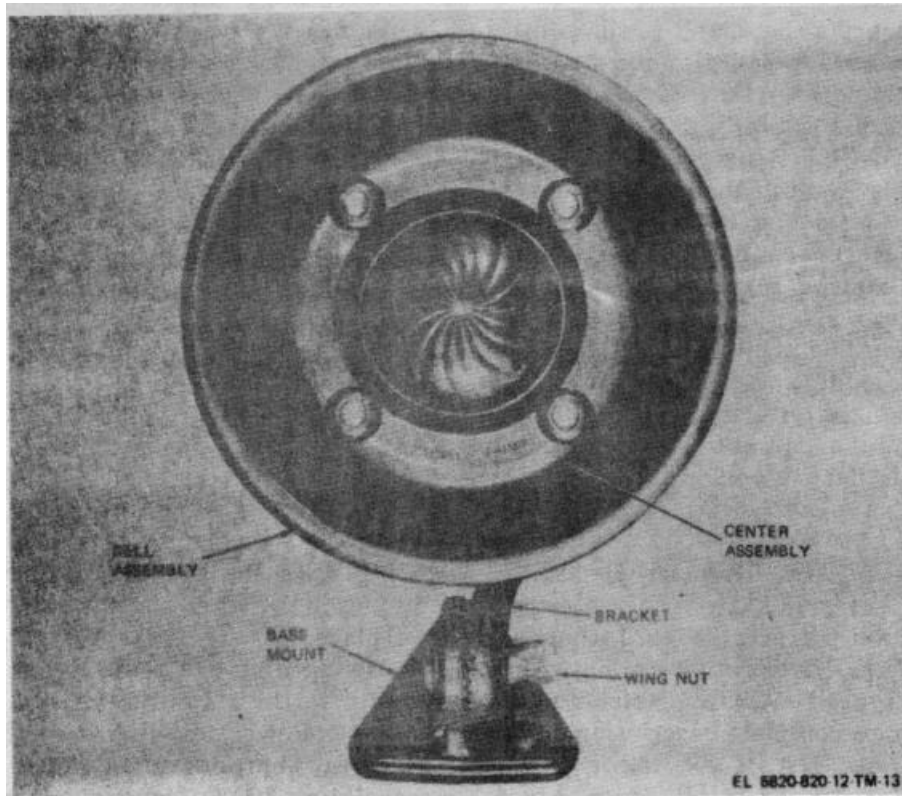

Figure 1-5. Loudspeaker LS-610/UR.
d. *Loudspeaker LS-610/UR.* Two Loudspeakers LS-610/UR (loudspeaker) (figure 1-5) provide separate audio outputs for the main and auxiliary receivers. These loudspeakers are approximately 6 inches in diameter and are waterproof, blastproof, and submergence proof up to a depth of 15 feet. The